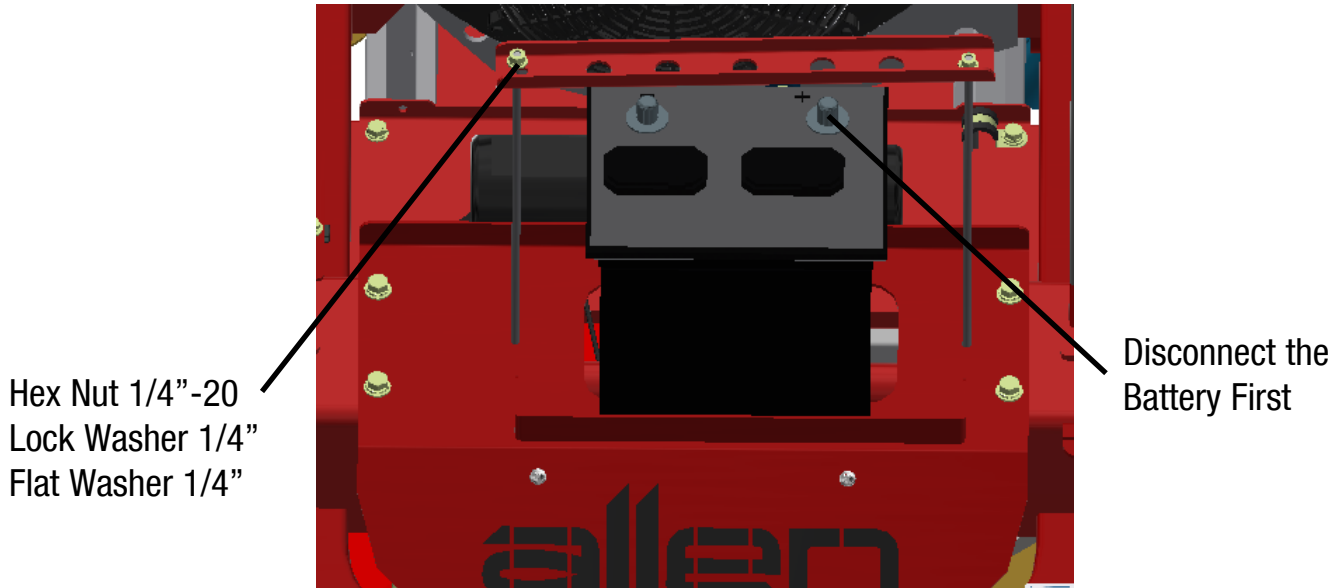

Figure 3.2: Battery
2. Open the battery box by removing the nuts, and washers on both ends of the battery hold down channel. Disconnect the battery. Refer to Figure 3.2.